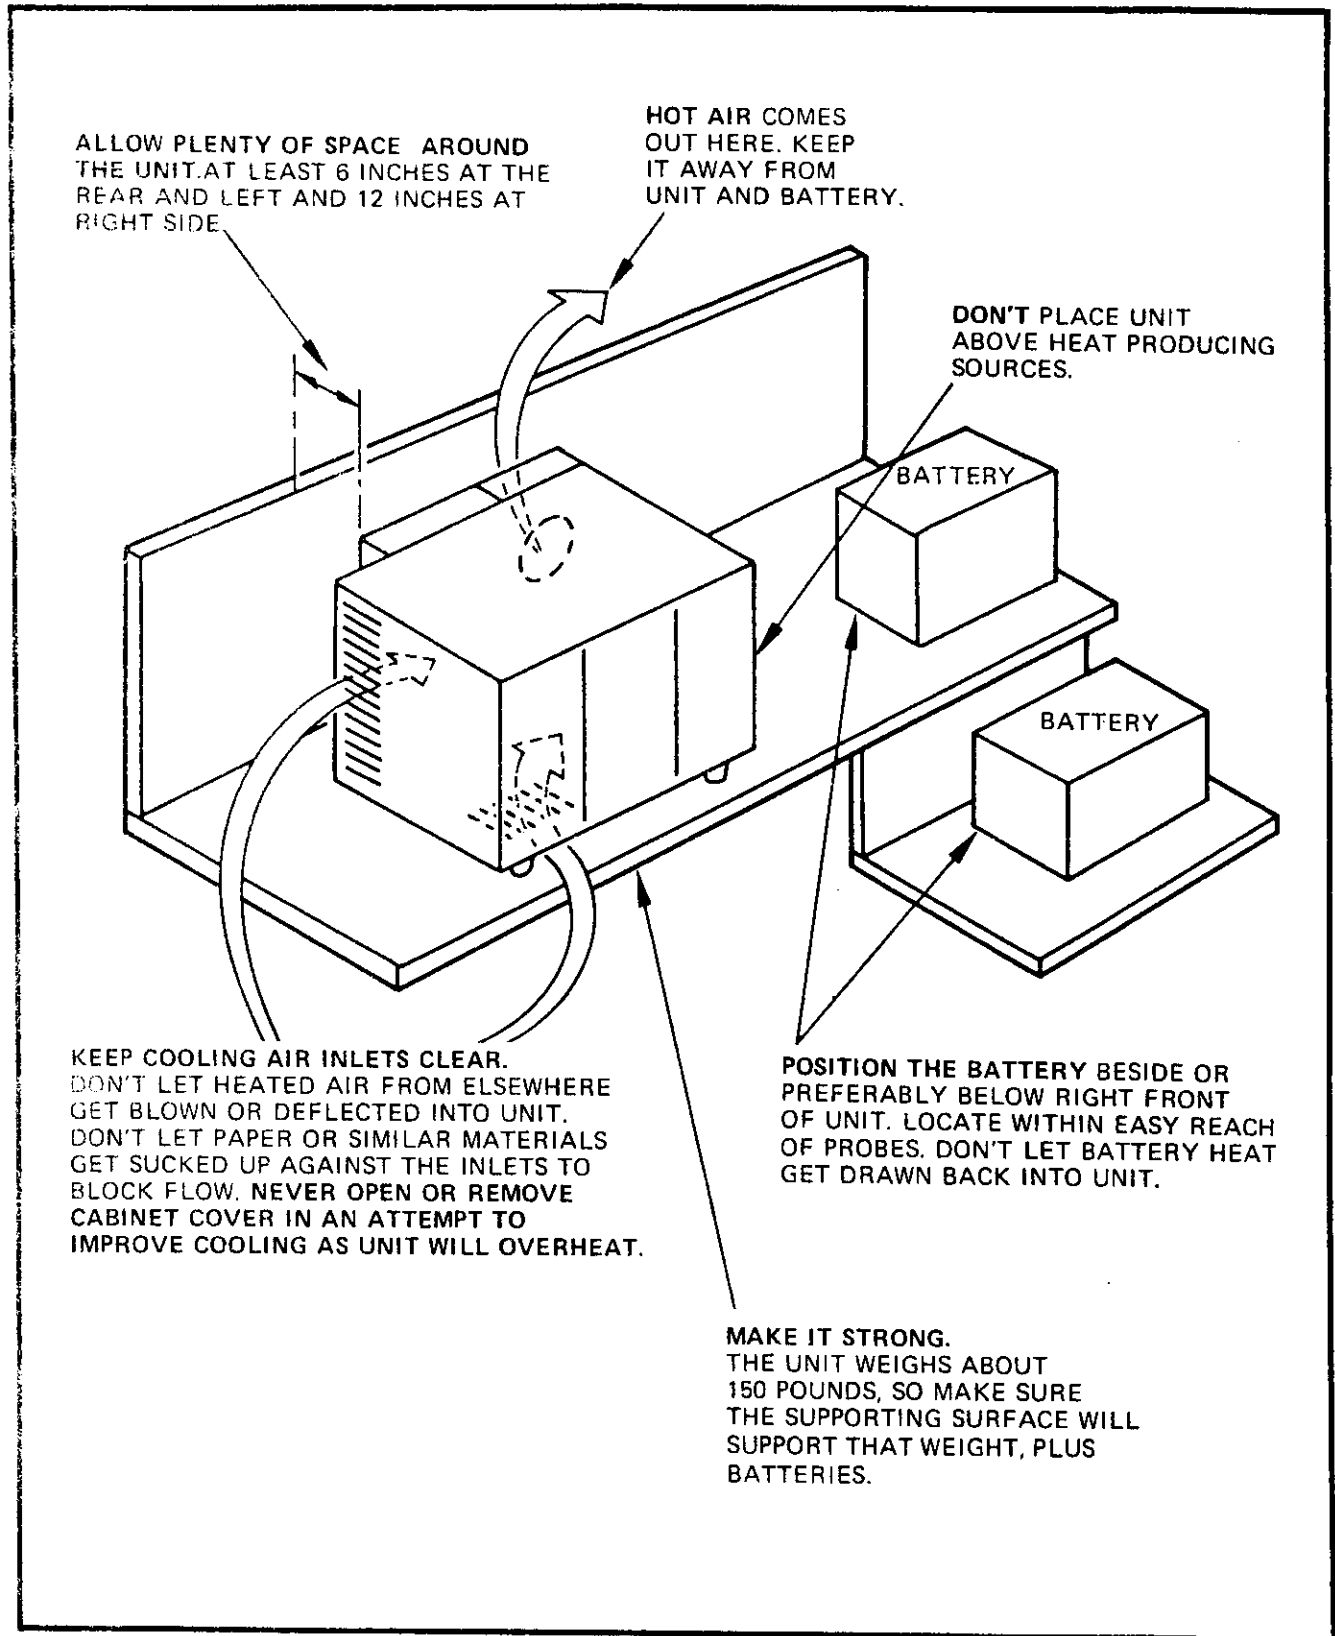

Figure 2-1. Placement Instructions
- 2-5. PLACEMENT. Proper placement is essential for proper operation as well as for ease of use. Cooling is an important consideration. For proper cooling, the charger is designed with two air intakes; one on the left side and one on the bottom (underside) of the cabinet. A blower at the rear of the cabinet draws air through the interior of the cabinet, and exhausts heated air out the rear of the cabinet. To ensure proper cooling, make sure that the conditions illustrated and outlined in Figure 2-1 are carefully observed during installation.